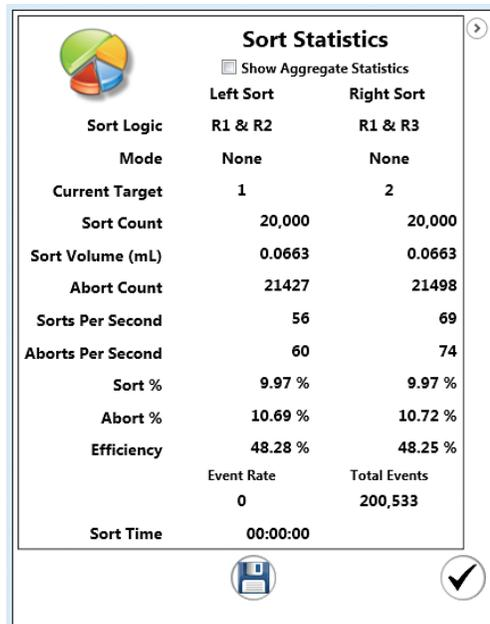

Fig. 71. Sort Statistics window.
15. Click **Start Sort** on the instrument control panel. The Sort Statistics window will open and sorting will begin (Figure 71). The Sort Statistics window can be reopened using the Sort Statistics button on the Home toolbar. Click on the arrow in the upper right corner to expand the window and show the statistics table.